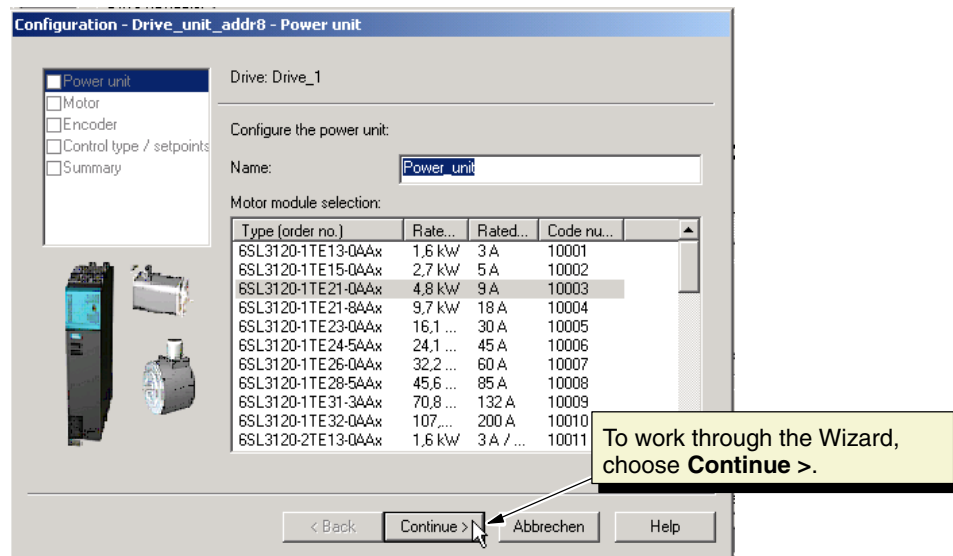

Fig. 5-14 Project Wizard
3. Choose **Carry out drive configuration**. The project Wizard for configuring the drive is displayed (see Fig. 5-14).